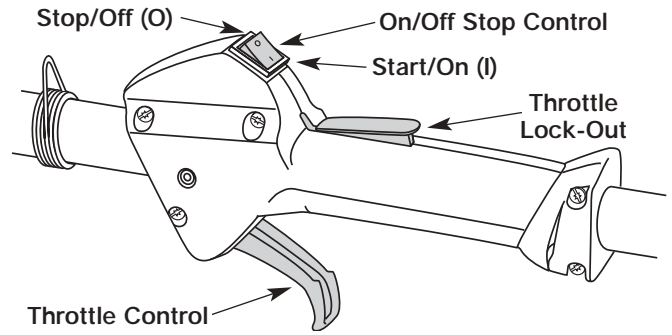
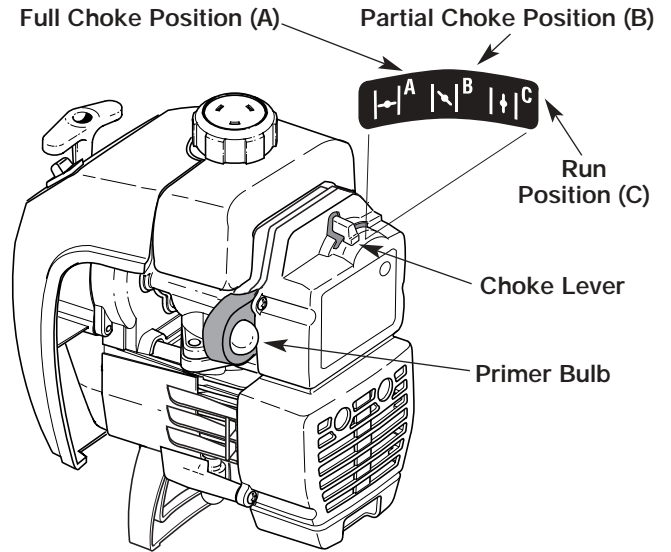
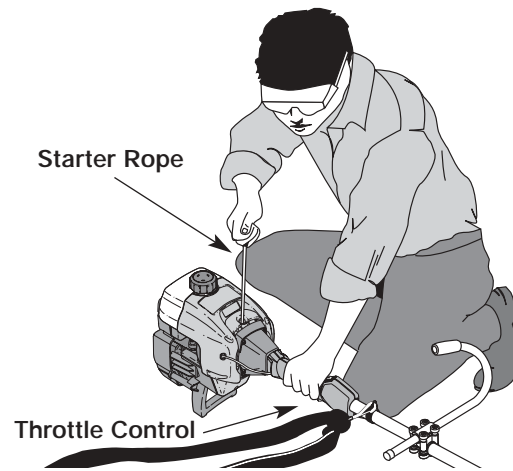

FIGURE 16
FIGURE 17
FIGURE 18
**WARNING:** Avoid accidental starting. Be in the starting position when pulling the starter rope, Figure 18. The operator and unit must be in a stable position while starting to avoid serious personal injury.
2. Put the ignition switch in the **ON (I)** position, Figure 16.
3. Fully press and release the primer bulb 5 to 7 times, slowly, until **FUEL IS VISIBLE IN THE PRIMER BULB**, Figure 17. If you can't see fuel in the bulb, press and release the bulb three (3) additional times, or as many times as it takes before you can see fuel in it.
4. Place the choke lever in the **FULL choke (A)** |←| position, Figure 17.
5. With the unit in the starting position, squeeze and hold the throttle control to the wide open (full throttle) position and pull the starter rope briskly 5 times in the **FULL choke (A)** |←| position, Figure 18. If the engine attempts to run before the fifth pull, proceed to step 6.
**NOTE:** *The engine will not run in the FULL choke (A) |←| position.*
6. Place the choke lever in the **PARTIAL choke (B)** |↘| position, Figure 17.
7. Pull starter rope briskly 1 to 3 times to start the engine, Figure 18.
9. Squeeze the throttle control to warm up engine for 5 to 10 seconds. Place the choke lever in the **RUN (C)** |↑| position, Figure 17.
**NOTE:** *Choking is unnecessary when starting a warm engine. Put the ignition switch in the ON position (Figure 16), and start in PARTIAL choke (B) |↘| position (Figure 17).*
1. Release your hand from the throttle control, Figure 18. Allow the engine to cool down by idling.
2. Put the ignition switch in the **OFF (O)** position, Figure 16.